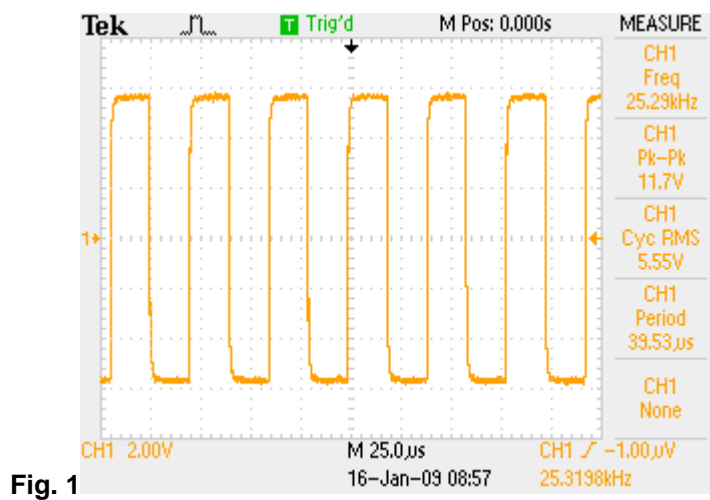

Fig. 1
6.2.6 VERIFY WAVEFORM IN FIG.1 WITH SCOPE PROBE AT X10 AT CONNECTOR HFPL1-1 TO HFPL1-2.